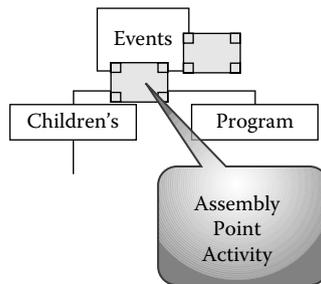

Figure 8.2 An assembly point.
There are always more activities than deliverables because (1) a deliverable may require several activities, and (2) there are activities not associated to a deliverable. These latter special activities are associated to the assembly of multiple deliverables into the next-higher deliverable. This can occur each time the lower-level deliverables of a leg combine at the next level (an assembly point; Figure 8.2).
Figure 8.2 depicts where assembly point activities can occur. They tend to be activities related to quality, integration, testing, and client interactions (review, acceptance, etc.). Team members define and execute assembly point activities at the lower levels but those at the topmost levels are either executed or facilitated by the project manager.